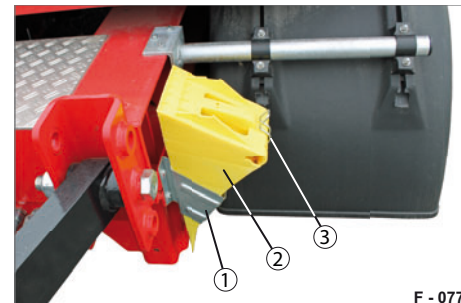

Fig. 102 Wheel chock in retaining brackets
- ▶ Pull the spring clamp (Fig. 102/3) towards yourself.
- ▶ Remove the wheel chock (Fig. 102/1).
- ▶ Fit the wheel chock into the retaining brackets (Fig. 102/1).
- ▶ Press the spring clamp (Fig. 102/3) onto the wheel chock.
- Pull the spring clamp (Fig. 102/3) towards yourself.
- Remove the wheel chock (Fig. 102/1).
- Fit the wheel chock into the retaining brackets (Fig. 102/1).
- Press the spring clamp (Fig. 102/3) onto the wheel chock.